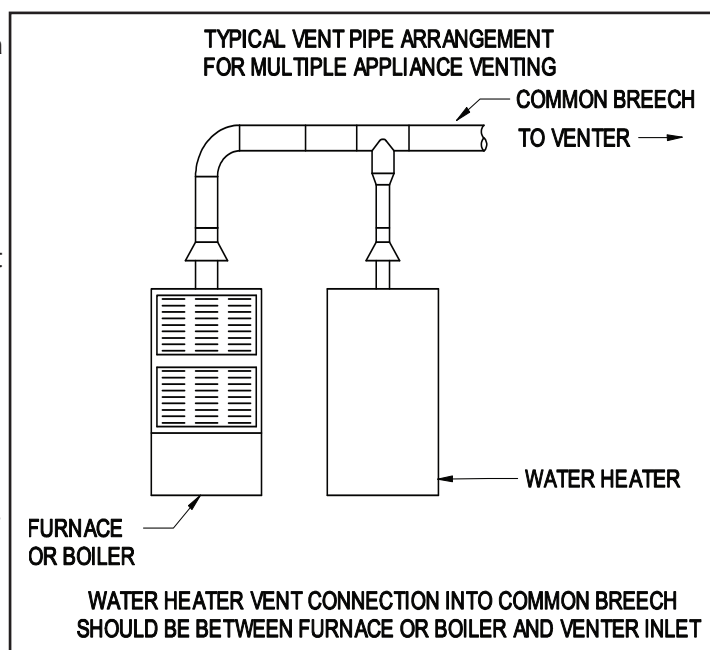

Figure 10
1. To properly adjust the venter air flow, loosen the inlet ring screws and open the choke plate approximately $\frac{1}{2}$ to $\frac{3}{4}$ open. (See Figure 10) Start the heating appliance following the manufacturer specified procedure, and set the thermostat to call for heat.
- b. A CK-20FV or CK-20FG control kit **MUST** be added to the system to properly control the venter during operation of the water heater. Refer to Figure 10 and Diagrams C and D for vent pipe arrangement and wiring information.